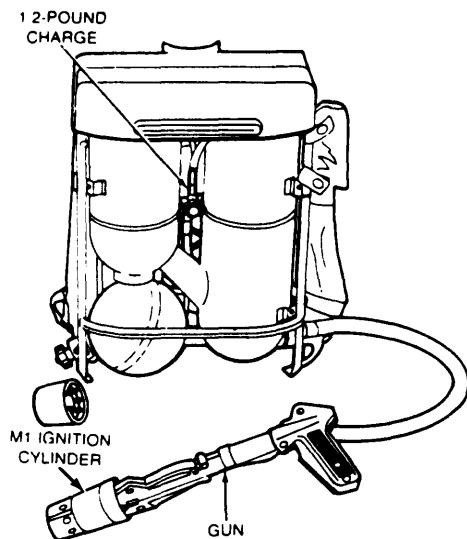

Figure 3-4. Explosive Charge Location for M2A1-7/M9-7/M9A1-7 Portable flame Thrower.
(1) Fasten 1/2 pound explosive charge on top of pressure regulator (figure 3-4).
(2) Tape, tie, or wire gun next to charge.